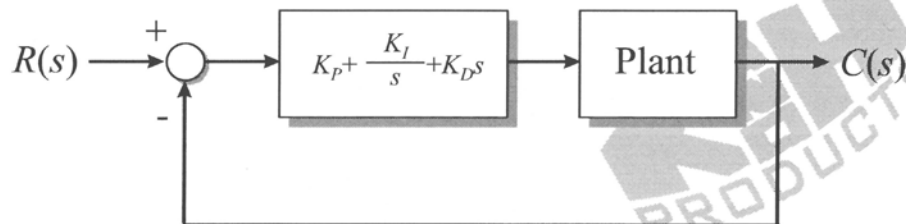

Figure 1. Block diagram of the closed-loop system.
- Figure 1 shows the block diagram of closed-loop control system with a plant plus PID controller.